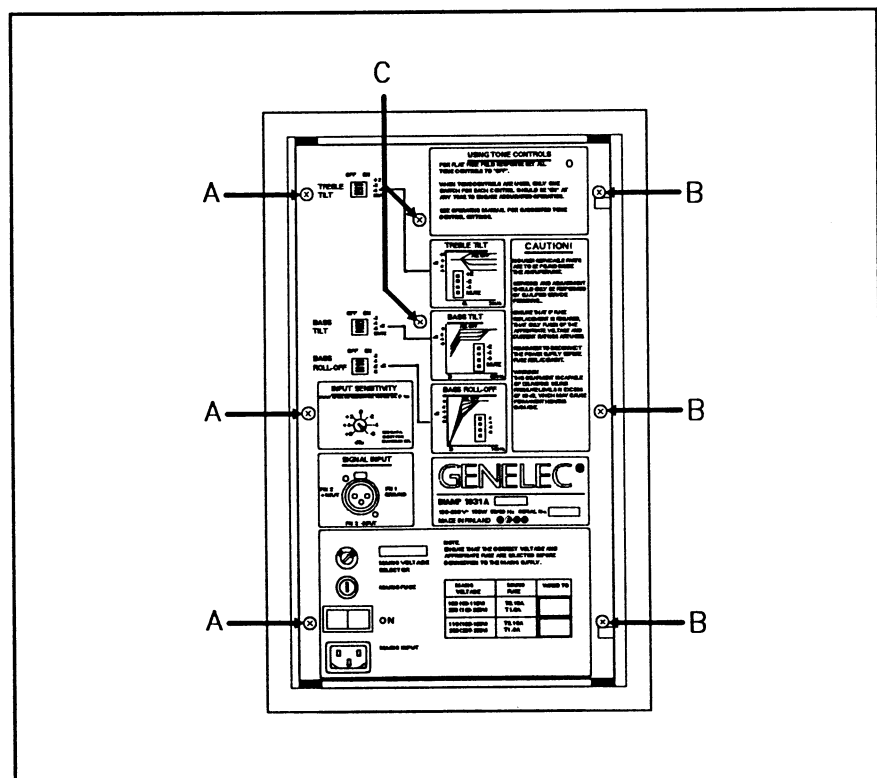

Figure 4.1 Location of rear panel fixing screws
- b. Release the three screws marked 'A' in figure 4.1.
- b. Loosen the three screws marked 'B' in figure 4.1. and remove only the center one completely.
- c. Release the two screws marked 'C' in figure 4.1.